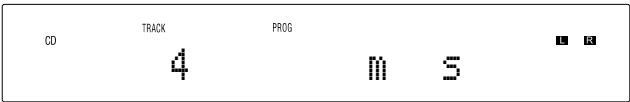

Figure 32
- In a similar manner, enter the remaining Tracks 4 and 2. Refer to figures 32 thru 35.